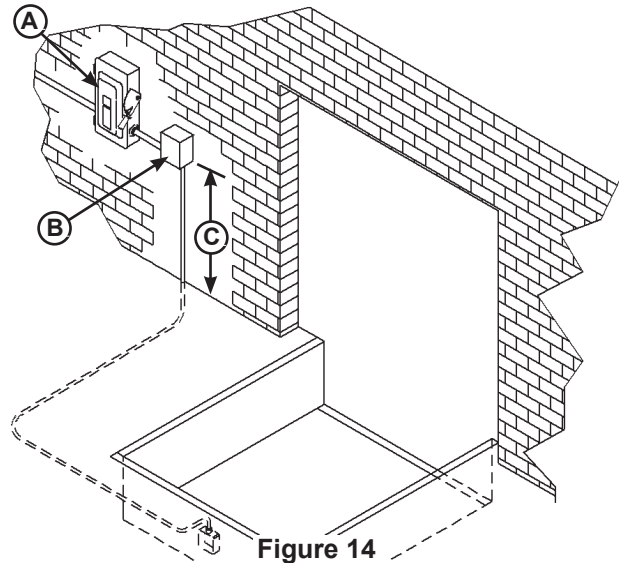

Figure 14
1. Mount the push-button control panel (B) so bottom of control panel-to-dock floor distance (C) is 48 in. (1219 mm). See Figure 14.
2. Install electrical disconnect panel (A) if not already installed. Disconnect panel supplied by others.